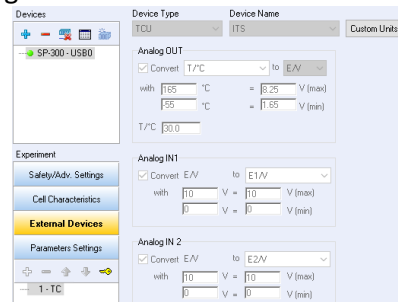

Figure 7: Analog In1 and Analog In2 settings for calibration.
- Load Temperature control (TC) protocol on EC-Lab®.
- Replace the  $T/^\circ\text{C}$  by  $E_1/\text{V}$  and  $E_2/\text{V}$  in the box in front of “Convert E/V” of Analog In1 & Analog In2 sections respectively and set the voltage values as shown in Fig. 7.